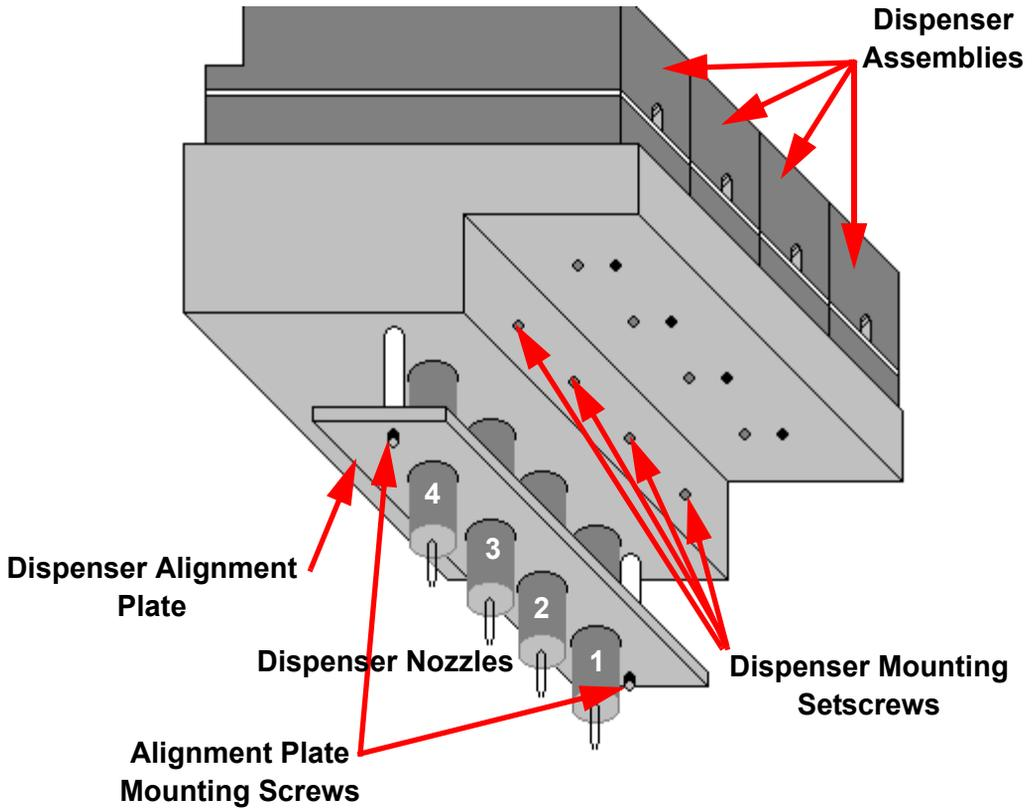

Figure 10-13. Dispenser Mounting Diagram.
4. Loosen the setscrew (Figure 10-13) securing the defective dispenser to the head assembly.
10. Tighten the setscrew (Figure 10-13) to secure the new dispenser. ***Do not over tighten this screw.*** Gentle pressure is sufficient to secure the dispenser.